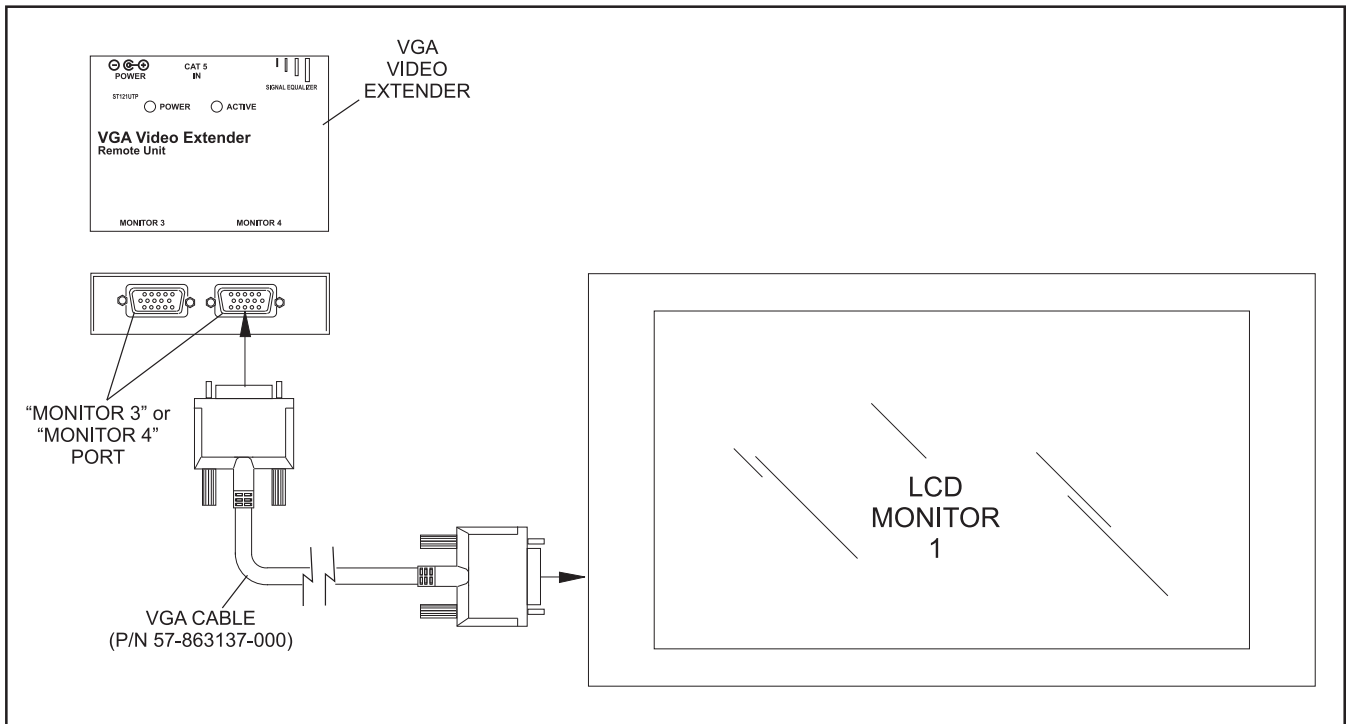

Figure 6. VGA Cable
4. Connect the VGA Cable (P/N 57-863036-000) to “MONITOR 3” on the VGA Video Extender. Refer to *Figure 6*.